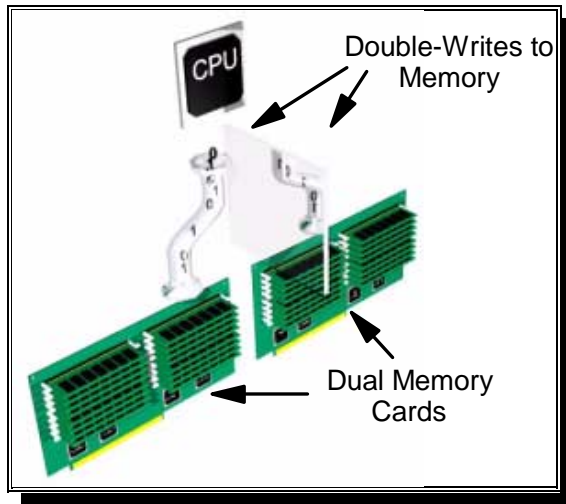

Figure 6. Memory Mirroring
- **Memory mirroring** — The third line of defense against server downtime due to memory failure is memory mirroring. Should a server somehow encounter so many memory errors that Memory ProteXion and Chipkill memory together cannot correct them all, mirroring will keep your system running. Memory mirroring conceptually works much like RAID-1 disk mirroring, in that data is simultaneously *written* to two independent memory cards. (Each card is configured identically.) Memory is *read* only from the memory card designated as active. (See Figure 6.)